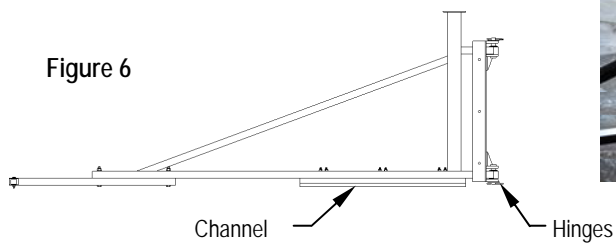

Figure 6
5. See Figure 6. Stand Front Swing Arm (11) upright with the channel on the floor and hinges on right side. Position at the top of the Actuator Assembly (1) and slide onto Slide Block (2) into channel.